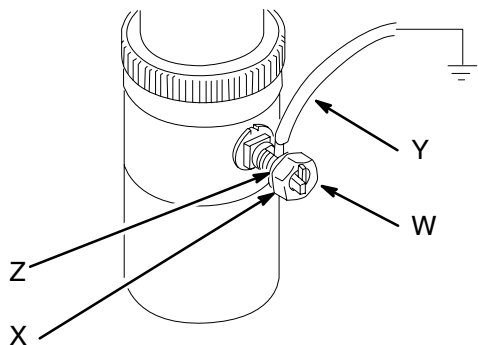

Fig. 1
1. *Pump:* use a ground wire and clamp. See Fig. 1.
To ground the pump, loosen the grounding lug locknut (W) and washer (X). Insert one end of a 12 gal. (1.5 mm²) minimum ground wire (Y) into the slot in lug (Z) and tighten the locknut securely. See Fig. 1. Connect the other end of the wire to a true earth ground. See the **Accessories** section on page 22 to order a ground wire and clamp.